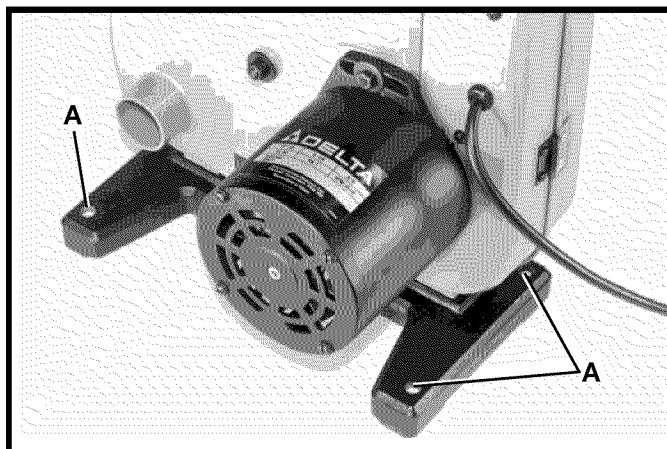

Fig. 16
If during operation there is any tendency for the machine to tip over, slide, or “walk” on the supporting surface, the machine must be secured to the supporting surface. Four holes are provided in the band saw base for this purpose, three of which are shown at (A) Fig. 16.